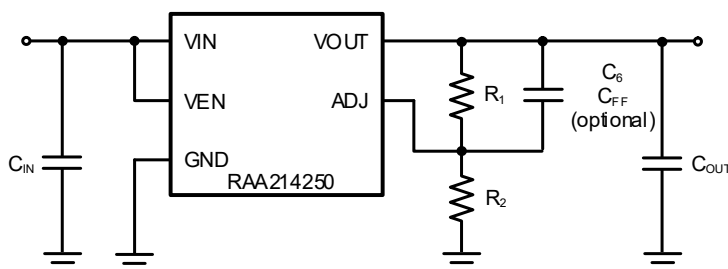
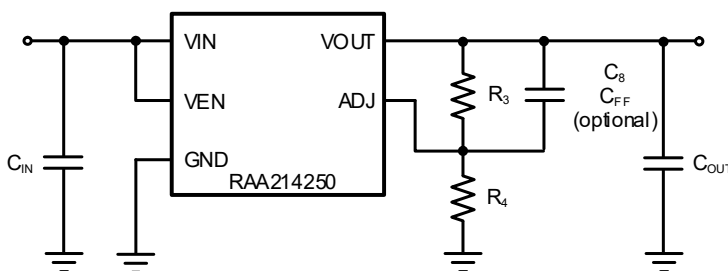

Figure 3. RAA214250 SOIC Simplified Application Schematic
Figure 4. RAA214250 DFN Simplified Application Schematic
The RAA214250 output voltage (V_{OUT}) can be programmed down to 1.224V and up to 18V using the feedback (FB) resistors, R_1 and R_2 for the SOIC package (Figure 3) or R_3 and R_4 for the DFN package (Figure 4).